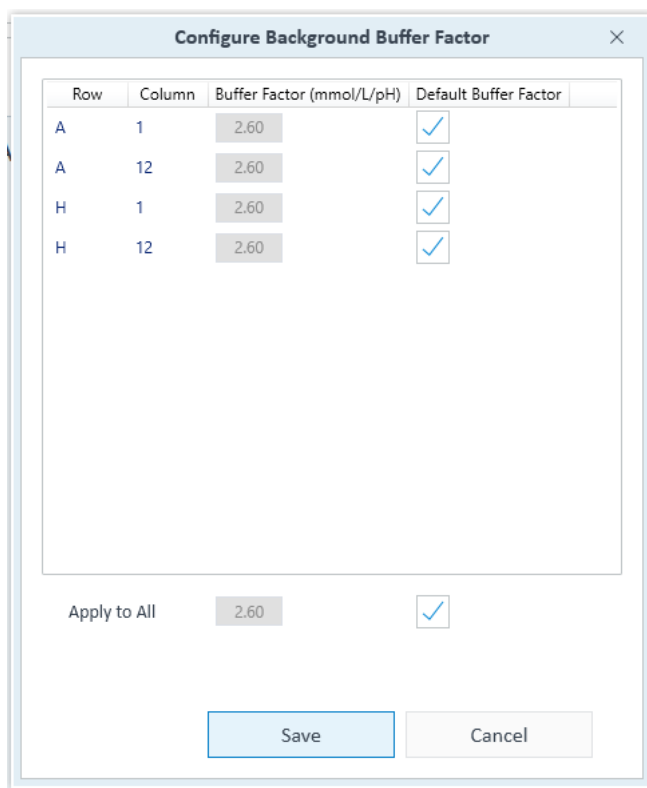

Figure 112. Configure background buffer factor
- 7 Under the column header **Default Buffer Factor**, check the boxes next to each background well, and click **Save** (See Figure 112).